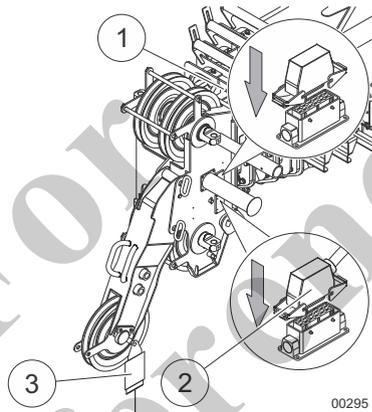

Fig. 176 Attaching the lifting limit switch of the auxiliary jib to the telescopic boom
2	Remove the bypass plug (1) in Fig. 176 from the lower socket on the telescopic boom and insert it into the upper power socket.
3	Attach the lifting limit switch (3) in Fig. 176 to the auxiliary jib and insert it into the lower power socket on the main boom (2) in Fig. 176.